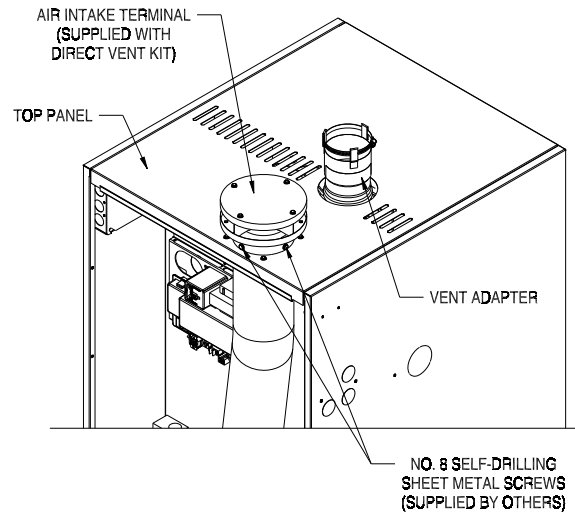

Figure B.2: Air Intake Terminal (Installed on Air Intake Collar)
- The Direct Vent Conversion Kit described in Appendix A is often required to avoid burner “resonance” (a low-pitched humming noise) when the boiler is installed at altitude. If the Direct Vent Conversion Kit is required to eliminate this noise, combustion air may still be drawn from indoors if desired – see Figure B.2).
If indoor air is used for combustion - The installer may elect to not install the Direct Vent Conversion Kit unless burner resonance is observed. If the Direct Vent Conversion Kit is used, install it according to the instructions provided with the kit. After verifying that there is an adequate air supply inside the boiler room (see Section 5), install the intake terminal directly on the boiler’s intake collar as shown in Figure B.2. Secure with at least two sheet metal screws.